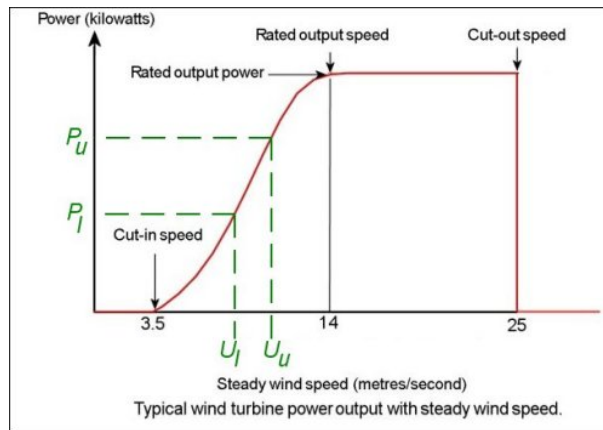

Figure 1: Wind turbine power profile1
The main motivation on estimating these parameters is the study of the average power that a certain turbine will produce in a certain location. In order to do that, the expected value  $\mathbb{E}\{P_{\text{Power}}(v)\}$  of the power profile  $P_{\text{Power}}(v)$  of the turbine is calculated using the wind distribution (eq. (1)). As an illustration, a typical power profile of a wind turbine is given in Figure 1.